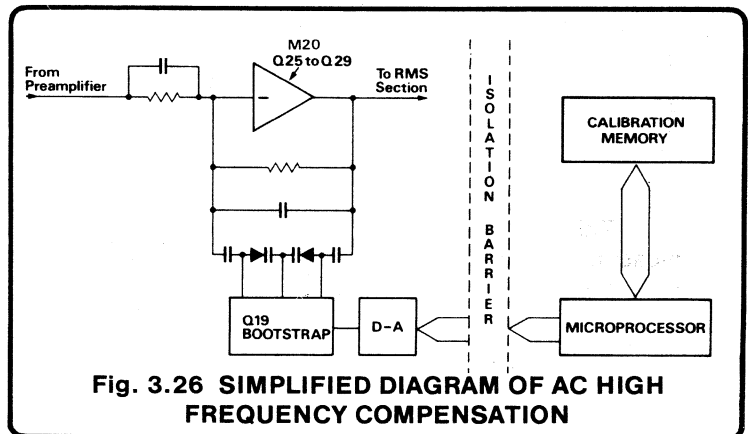

Fig. 3.26 SIMPLIFIED DIAGRAM OF AC HIGH FREQUENCY COMPENSATION
During the calibration cycle, the microprocessor notes and stores the high frequency (HF) error of each range. When AC volts is selected the compensation information for a particular range is recalled by the microprocessor, transferred across the isolation barrier and latched on to M13, M14 (Drawing No. 430503 sheet 5), see Fig. 3.26.